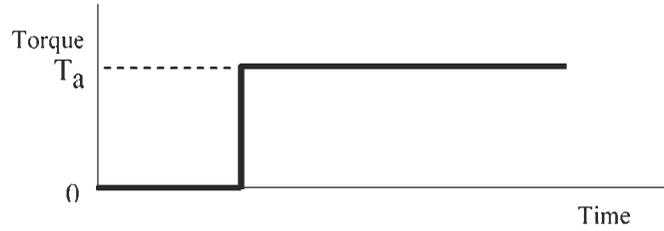

Figure 3: Torque as a function of time T_a
- (a) Suppose that a torque source is coupled directly to the flywheel shaft in our setup and that the rotational inertia has a value J and the eddy-current damping has a value B . Sketch the angular velocity of the flywheel as a function of time in response the step change in torque shown in Figure 3. What is the time constant of the response? What is the steady state velocity after the transient? What is the maximum acceleration of the flywheel and when does it occur? Show the steps in your modeling process.